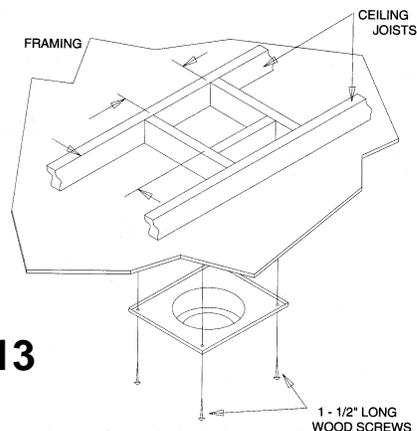

FIG. 13
Step 3. To install the round support box/wall thimble in a flat ceiling, cut a 10" (254mm) square hole in the ceiling, centered on the hole drilled in Step 2. Frame the hole as shown in Figure 13.
- (1) For multi-story vertical installations, a ceiling firestop (SDV part #963) is required at the second floor, and any subsequent floors (Figure 16). The opening should be framed to 10" x 10" (254mm x 254mm) inside dimensions, in the same manner as shown in Figure 13.
- (2) Any occupied areas above the first floor, including closets and storage spaces, which the vertical vent passed through must be enclosed. The enclosure may be framed and sheetrocked with standard construction materials; however, refer to these installation instructions for the minimum allowable clearance between the outside of the vent pipe and the combustible surfaces of the enclosure. Do not fill any of the required air space with insulation.